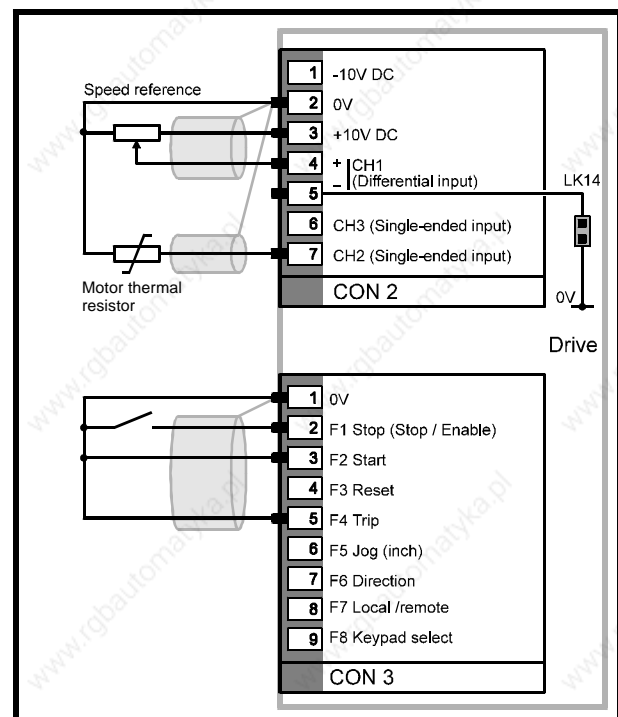

Figure 8-1 Basic control connections for operating the Drive in Terminal Mode
1. Make control connections as shown in Figure 8-1.